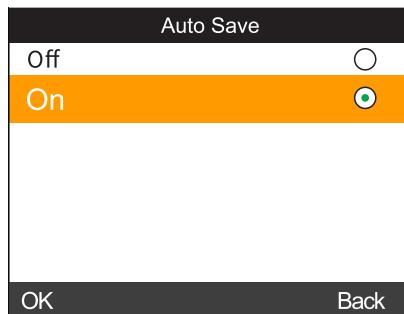

Figure 42 Auto Save Interface
b) Select "Settings" - "Auto Save" to enter an interface shown in Figure 42. This interface enables you to set measured data automatically or not. Select "Open", each sample data and standard data will be saved automatically. Select "OFF", data will not be saved automatically.